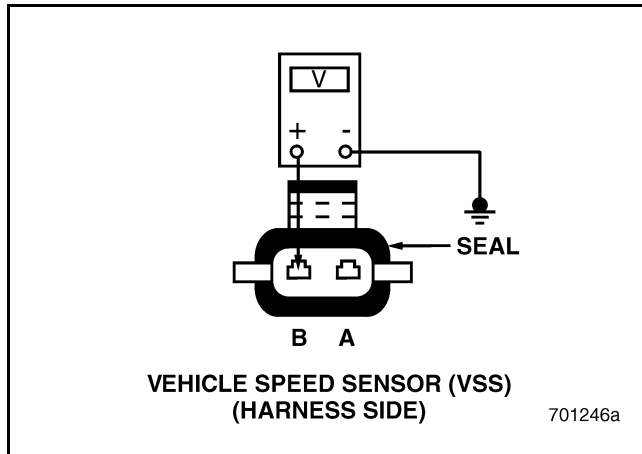

Figure 446
3. Measure the voltage between the harness side of VSS connector, pin B, and a good ground (see Figure 446).